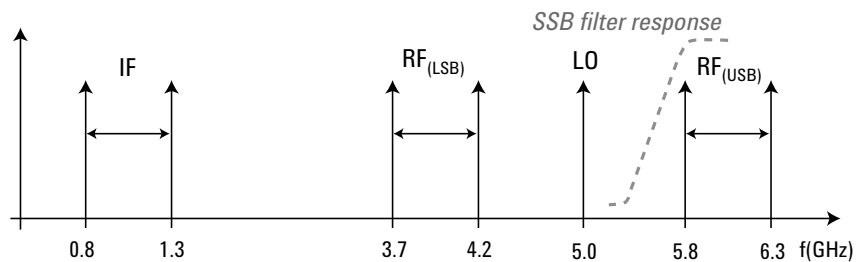

Figure 15. Frequency map
12. The governing equation for this measurement is $RF=LO+IF$. The frequency map for this measurement is shown in Figure 15.